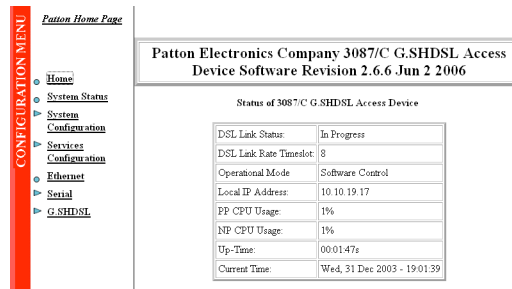

Figure 3. Model 3087 web management home page
2. Log into the web management home page using the username *superuser* and the password *superuser*. (See figure 3.)